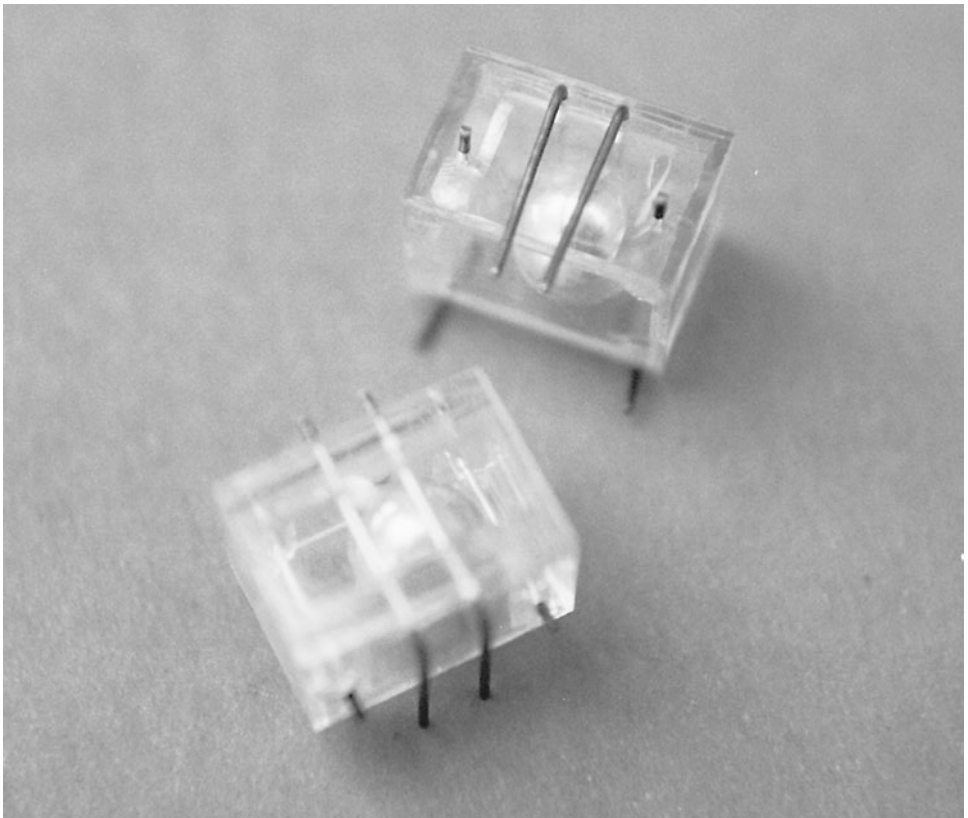

FIGURE 35-1 Typical ball-in-cage switches.
- The ball-in-cage (see Fig. 35-1) is an all-mechanical switch popular in pinball machines and other devices where small changes in level are required. The switch is a square or round capsule with a metal ball inside. Inside the capsule are two or more electrical con-